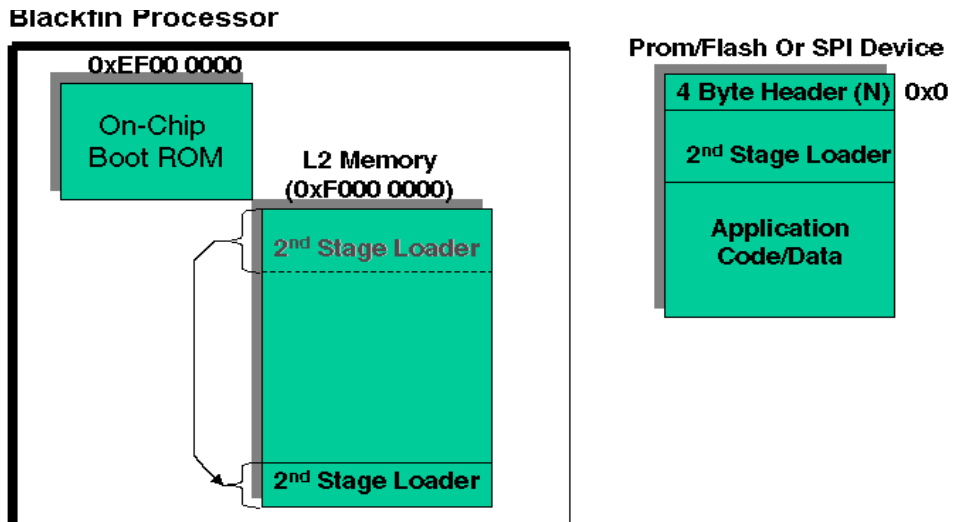

Figure 5-5. Copying Boot Kernel Loader to the Bottom of L2 Memory
2. The second-stage loader copies itself to the bottom of L2 memory (Figure 5-5).